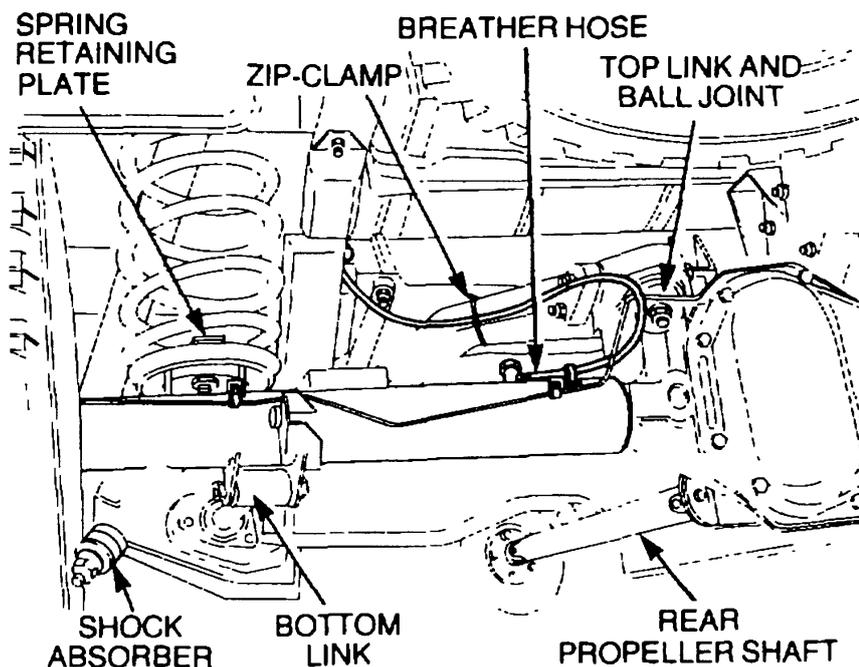

Figure 66 Rear Axle Removal
- e. Remove the banjo bolt securing the breather hose to the rear axle casing and discard the sealing washers (Figure 66).